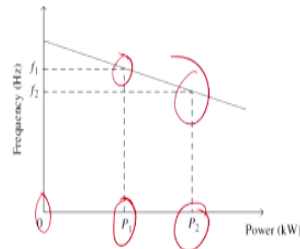

Fig.3 Relationship between active power output and frequency.
- The relationship between active power output and frequency can be described by the following equation and Fig.3.